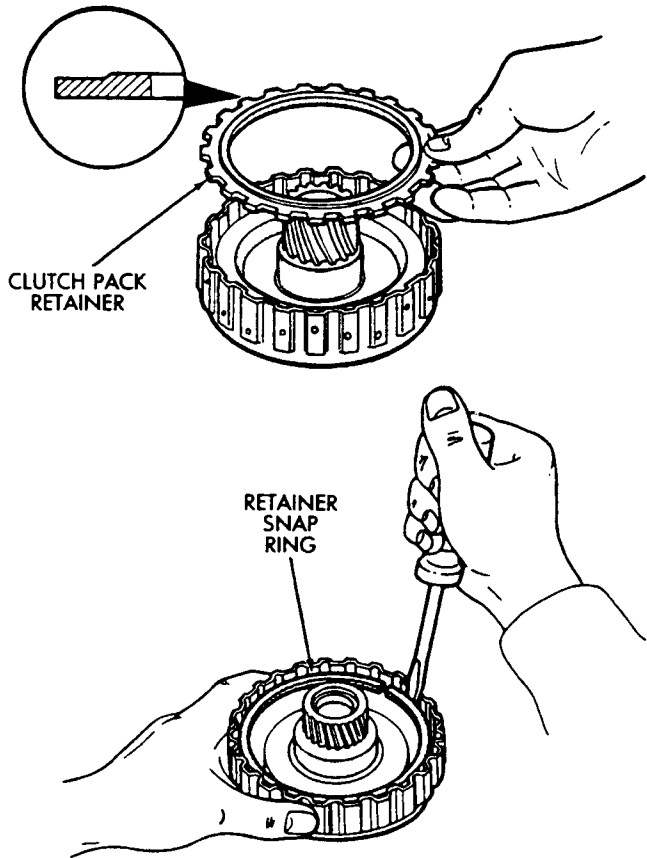
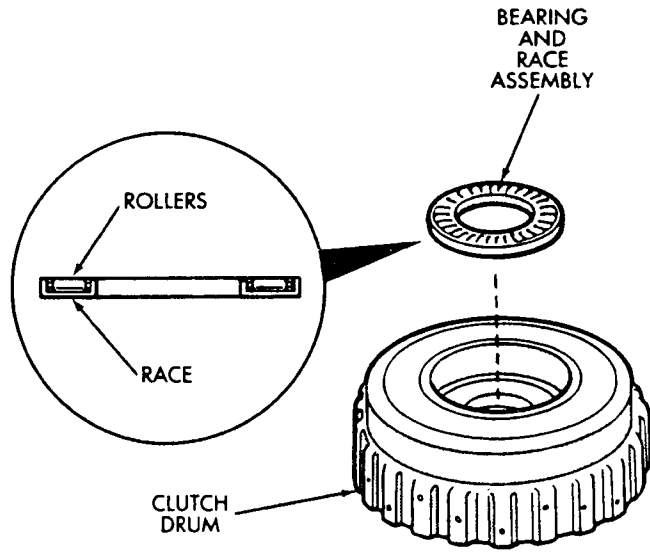

Fig. 26 Installing Retainer And Snap Ring
Fig. 27 Installing Clutch Drum Bearing And Race Assembly
(13) Install clutch pack retainer with flat side facing downward. Then install retainer snap ring (Fig. 26). Compress springs with tool B.Vi. FM. 27.
(14) Measure clutch piston stroke length again (refer to procedure outlined in disassembly procedure ). If stroke length is incorrect, install new clutch discs or select fit retainer. Retainer thicknesses are outlined in the Specifications section.
(15) Install clutch drum bearing and race assembly (Fig. 27). Be sure bearing rollers face upward as shown.